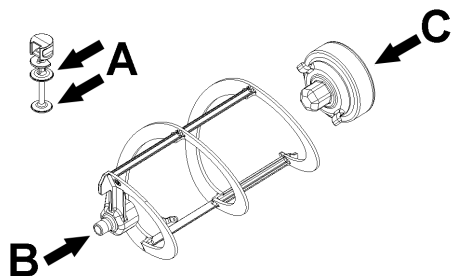
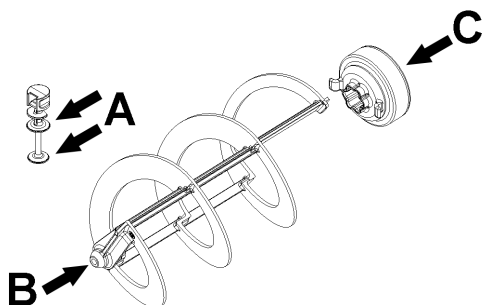

figure 16
figure 17
- 2 Lubricate the tap piston, the hexagonal joint and the mixer at the points indicated in figure 16 (NG6) or figure 17 (NG10), using only the grease that came with the machine or other grease for use with food.